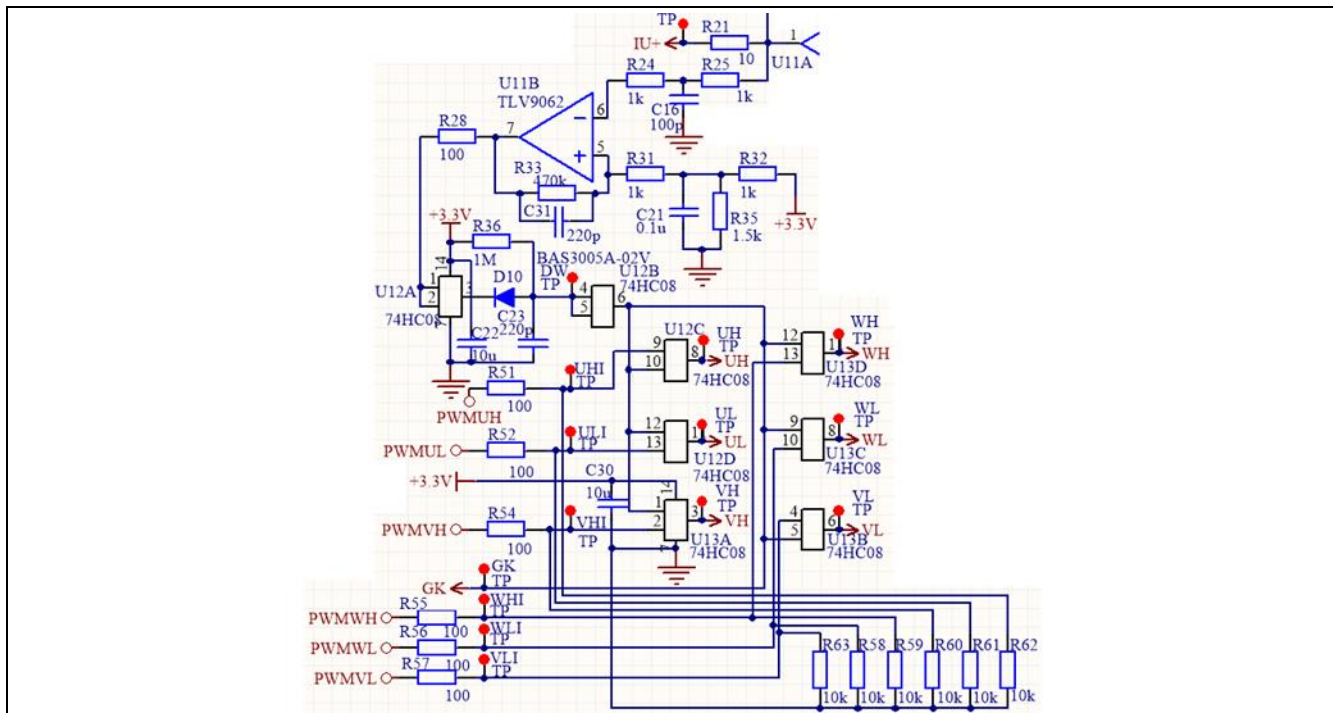

Figure 26 Overcurrent and GK/PWM shut down
Figure 26 is the overcurrent protection (OC) and gatekill (GK) circuit. The PWMUH, PWMUL, PWMVH, PWMVL, PWMWH, PWMWL are three-phase 3.3 V level PWM from J3 (from EVAL-M1-101T). UH, UL, VH, VL, WH, WL is 3.3 V level PWM to U1, U2, U3 (IPM). R51, R52, R54, R55, R56, R57 are input resistances for damping noise from connections. R58, R59, R60, R61, R62, R63 are pull-down resistors for preventing noise from input open (J3).